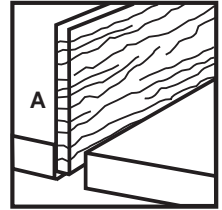

Figure 2
2. Clamp board A to a workbench or clamping table. See Figure 2.